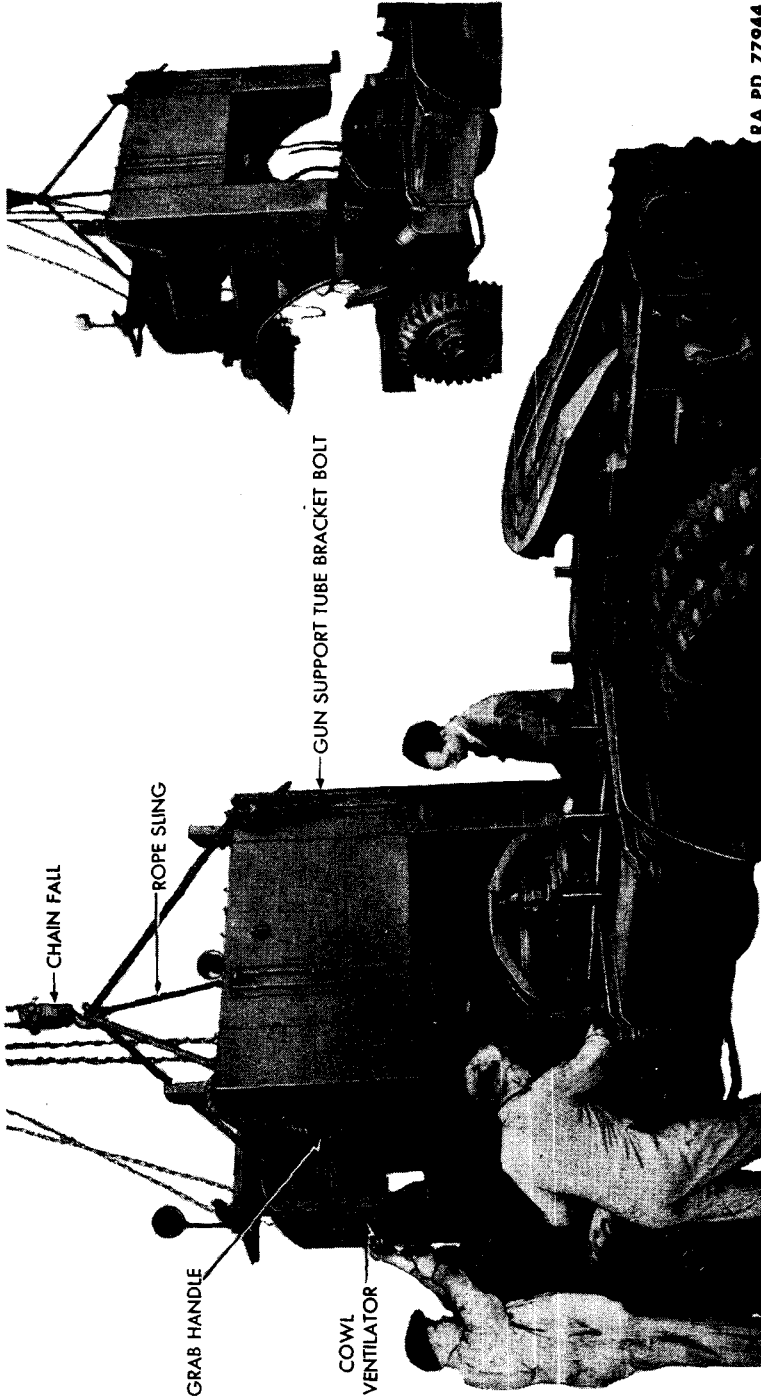

Figure 22 — Removing Cab
- ee. **Remove Cab (fig. 22).** Attach rope sling to cab as follows: Tie one end of rope to gun support tube bracket U-bolts at rear right-hand side of truck. Pull other end of rope across cab to the front left-hand side. Open cowl ventilator and push rope through opening, allowing some slack; then pull rope through grab handle on left-hand
p. **Install Cab** (fig. 22). Attach rope to cab as described in paragraph 56. Attach hoist to rope and raise into position over engine. Lower cab slowly, and guide into position on supporting brackets. Remove hoist and attaching rope.